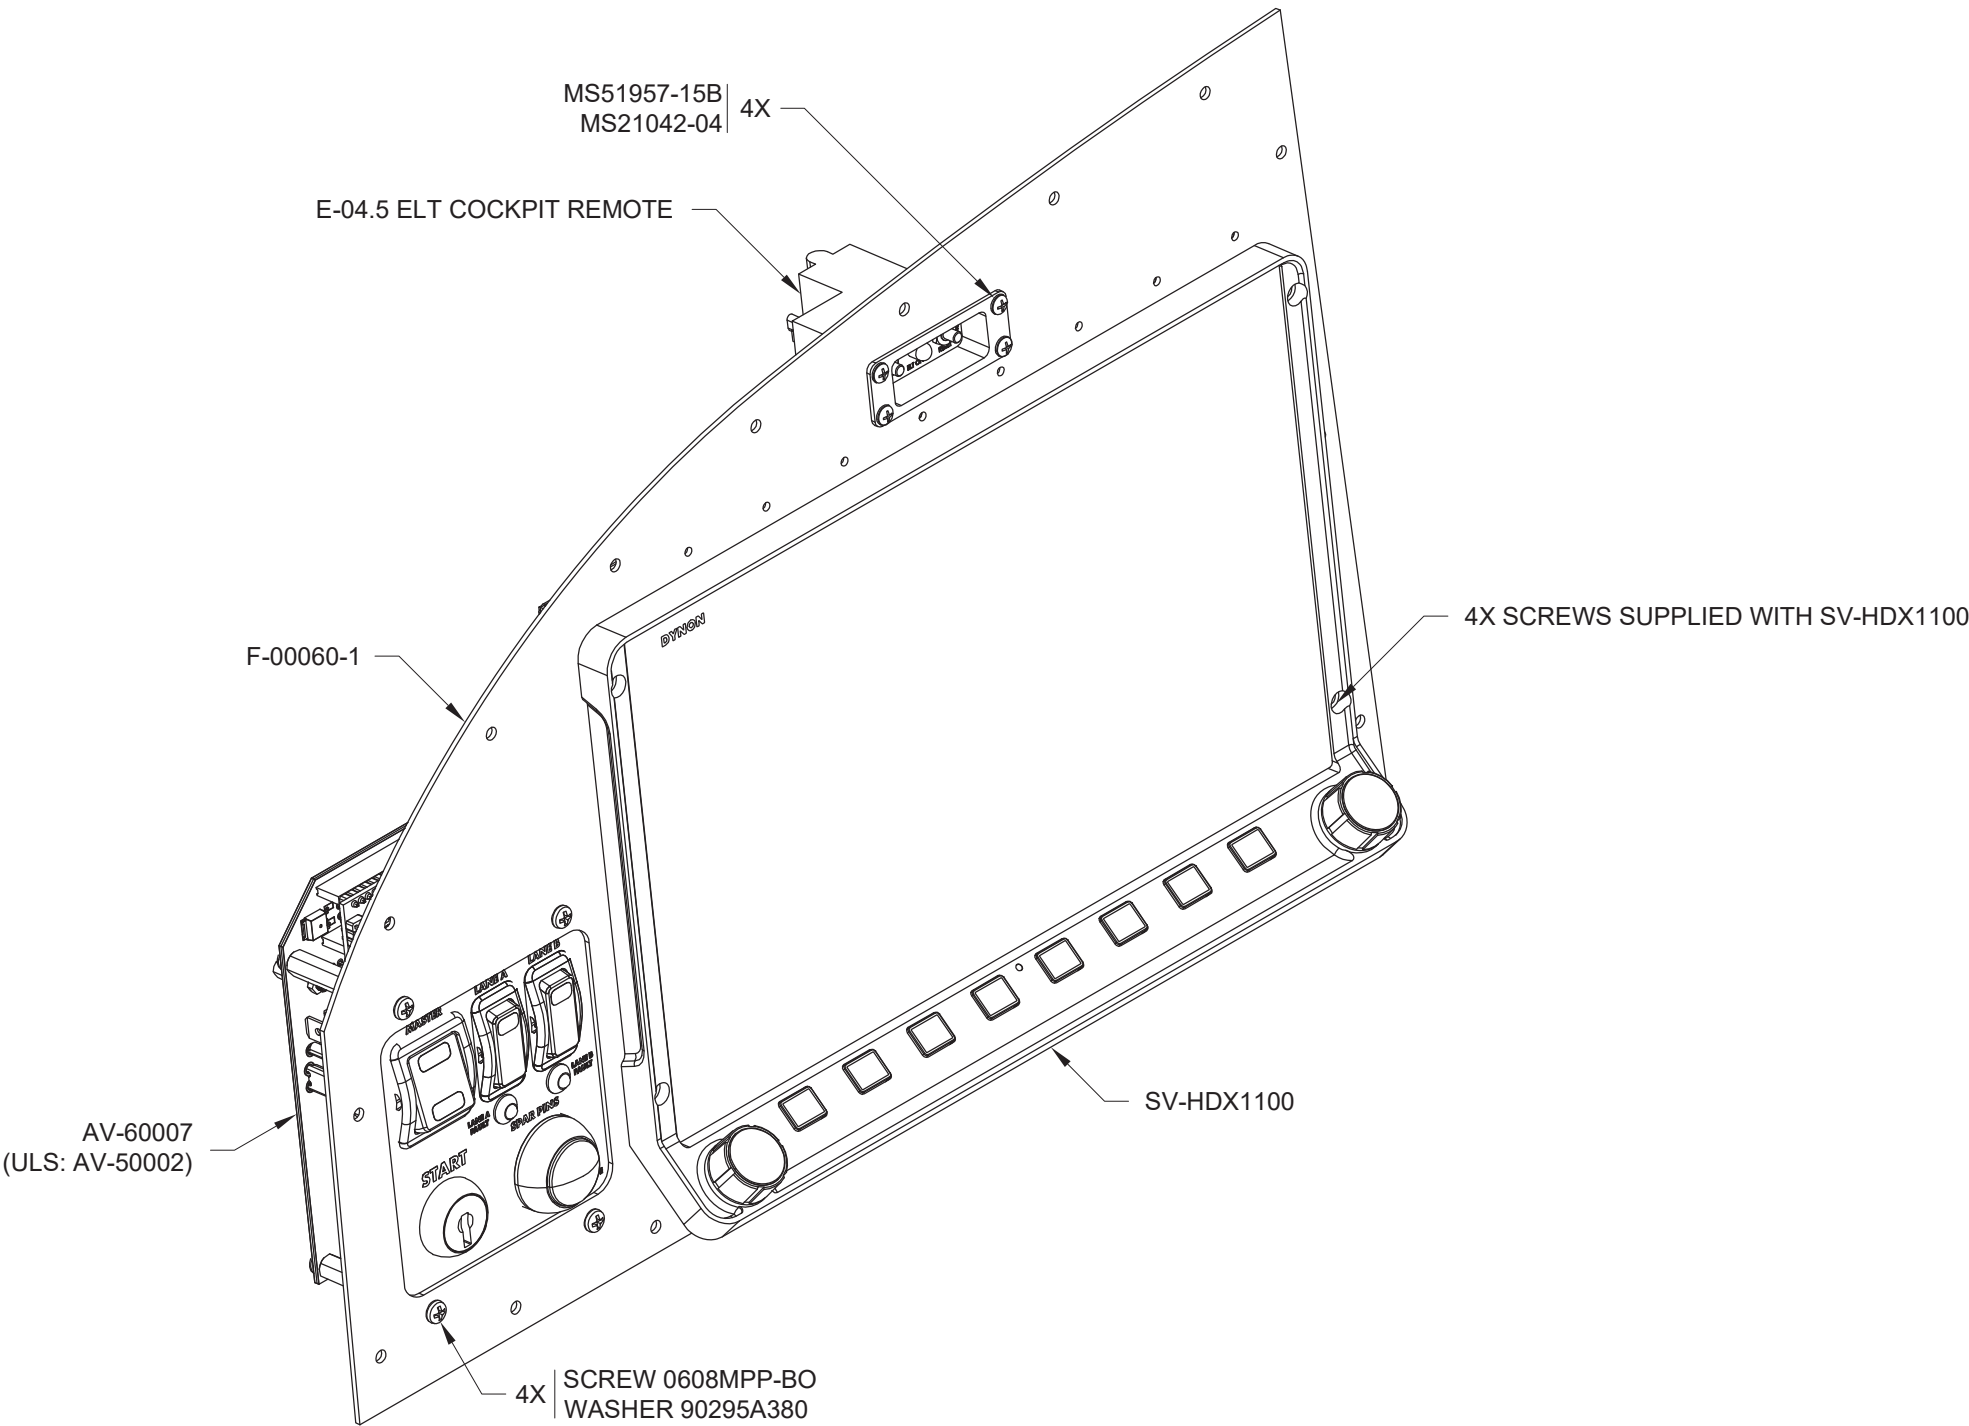

FIGURE 1: ATTACH AVIONICS TO LEFT INSTRUMENT PANEL
Step 1: Connect the 25-pin d-sub labeled "IGN MOD" on the WH-00133-1 RV-12iS Dynon Common Harness to the AV-60007 (ULS: AV-50002). See Figure 1.